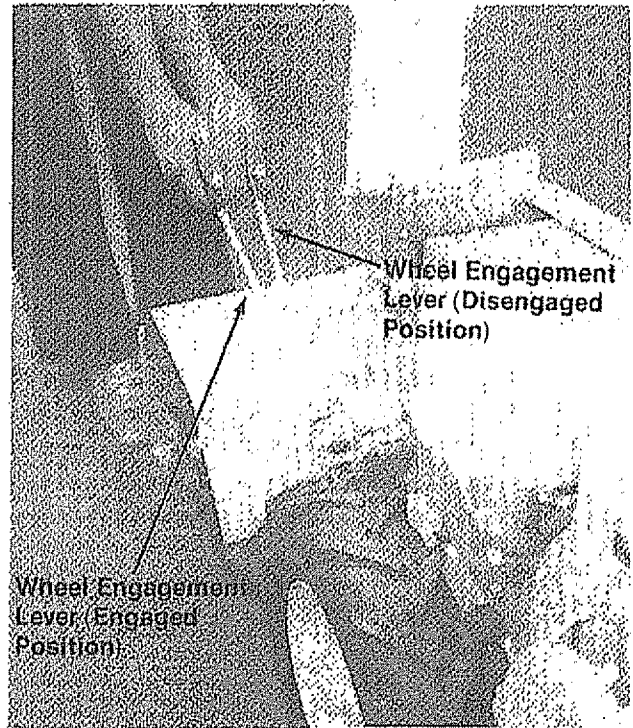

FIGURE 28.
- A. To engage wheels move the lever outward. To disengage or stop wheels move lever inward. See figure 28.
3. Place the wheel engagement lever in the disengaged position. See figure 28.